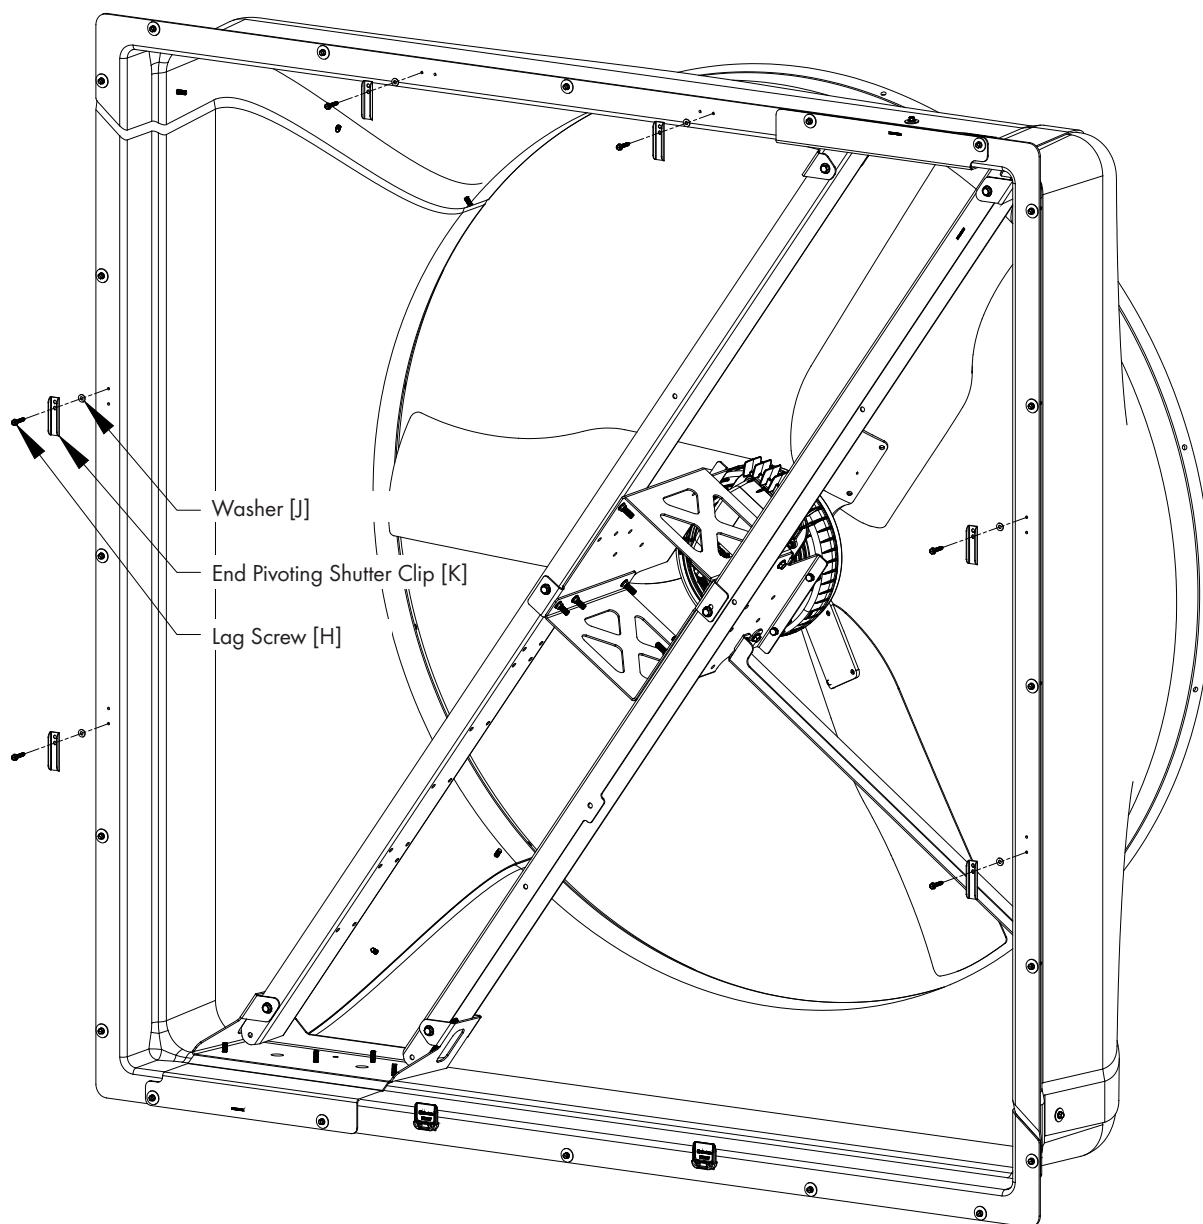

Figure 12
Install (6) End Pivoting Shutter Clips [K] at the pre-drilled shutter clip holes in the flange using (1) Lag Screw [H] and Washer [J]. The Washer should be mounted between the Shutter Clip and the flange. See Figure 12.